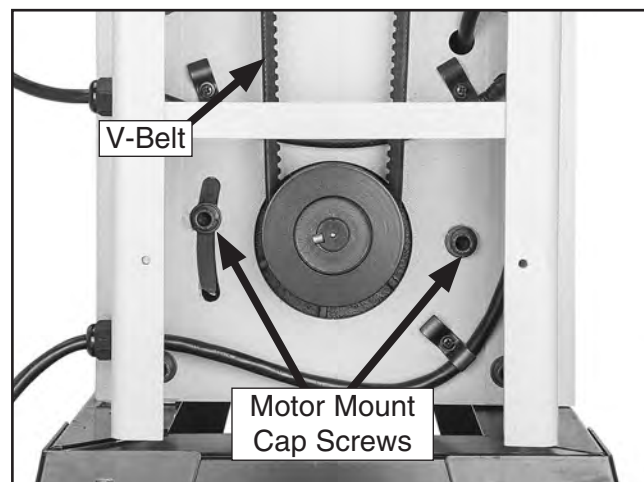

Figure 33. Feed belt V-belt tension.
3. Check tension of V-belt, then adjust tension by loosening motor mount cap screws shown in **Figure 33**.